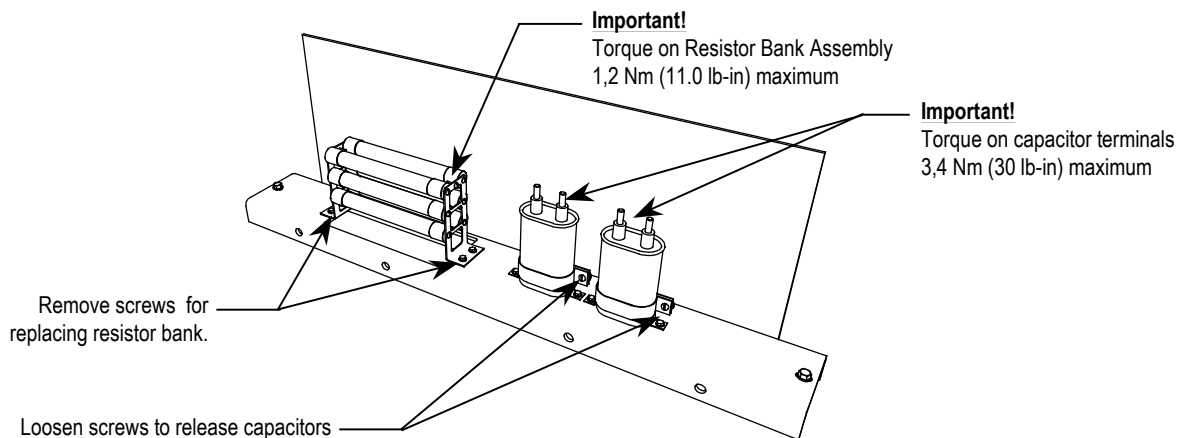

Figure 6.10 – Notch Filter Capacitor Resistor
4. Loosen and remove mounting screws as indicated in Figure 6.10 and remove the failed component.
6. Reattach the leads strictly adhering to the torque requirements outlined in Figure 6.10)